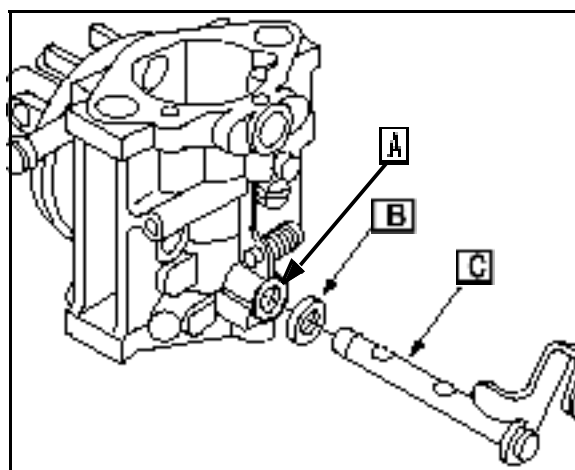

Fig. 106
1. Install throttle shaft seal (A) to carburetor body. Install seal with grooved side out.
2. Place plastic throttle shaft seal (B) on throttle shaft ([C] Fig. 106).